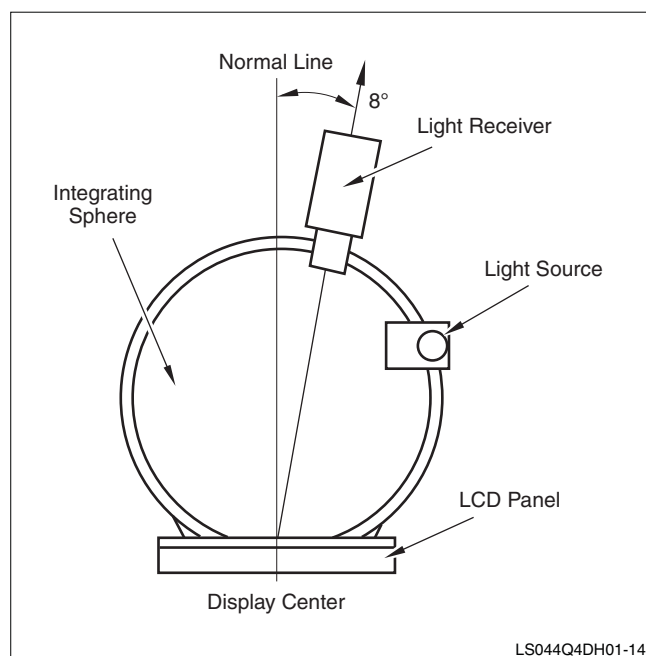

Figure 3. Setup for Contrast, Reflection Ratio, and Chromaticity
2. Contrast Ratio, Reflectivity Ratio, and Chromaticity are measured through the use of an integrating sphere. See Figure 3.